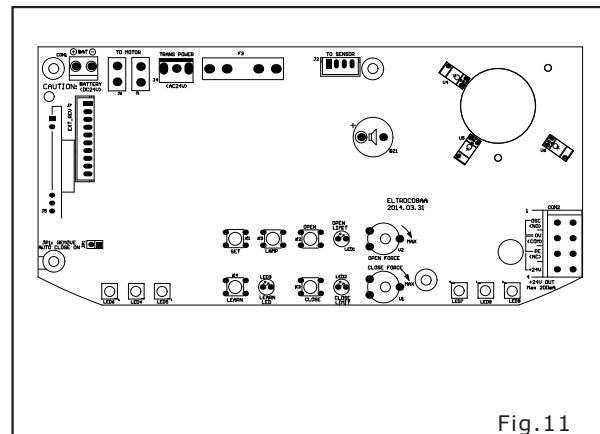

Fig.11
- (c) Turn the OPEN FORCE shaft 10 degrees clockwise. Press the CLOSE Button again to close the door. If the door stops by itself, readjust the OPEN FORCE shaft a further 5 degrees clockwise. Keep adjusting in this manner until the door can complete the full opening cycle. (Fig11)